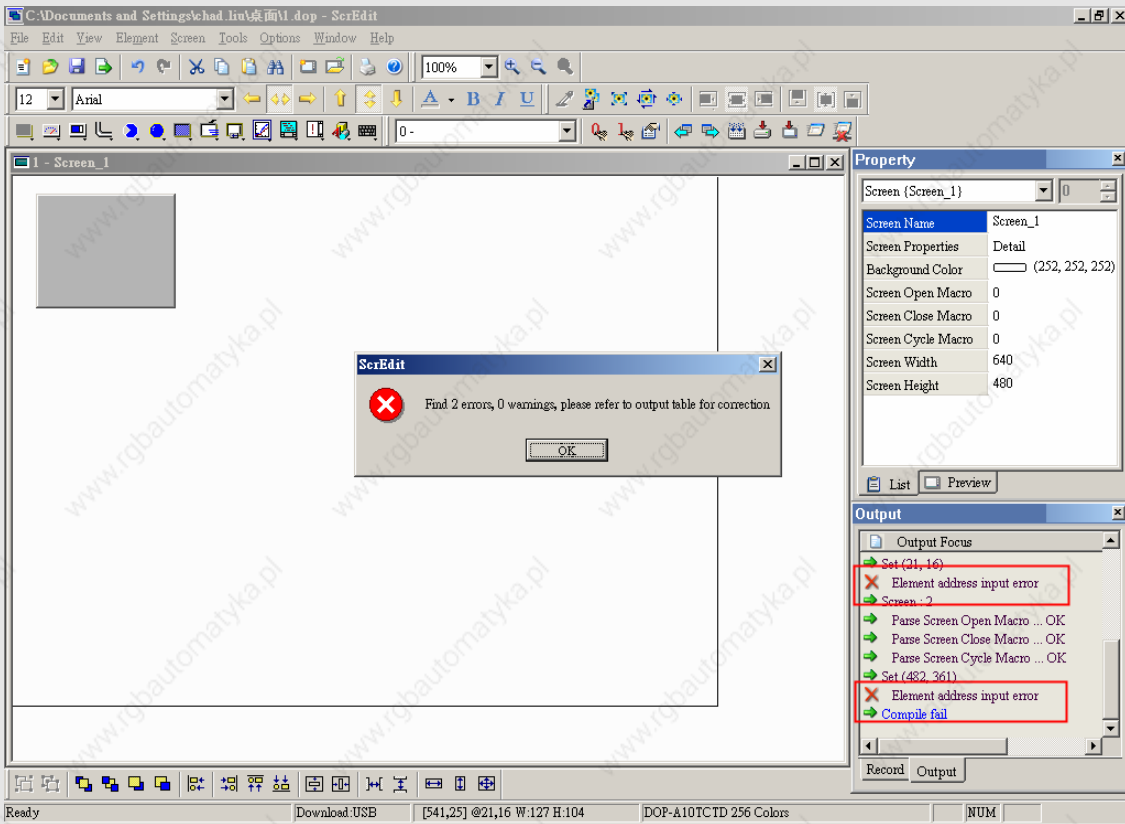

Fig. 2.8.5 Compiling errors during compiling process
- When pressing  icon to execute compile operation, error message dialog box will pop up to warn the users of compiling error and show how many errors there are. In Fig. 2.8.5, we can see that there are two errors occurred and they are all displayed in the output window.